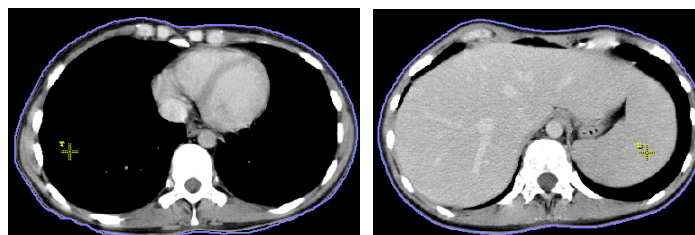

Figure 198 – Defining the top and bottom point of bolus
- The top and the bottom point (mouse cursor marked as **T** and **B**) can be chosen in any image in the current view. It is not necessary to locate these points on the contour line, just in a view displaying the same image series (see Figure 198). The cursor will not be displayed as a green tick for **T** and **B**.